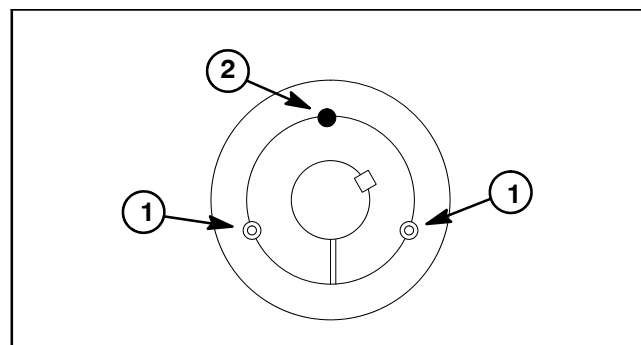

Figure 16
6. Remove four (4) cap screws (item 10) and lock washers (item 11) that secure gearbox assembly to gearbox brackets.
7. Remove fasteners that secure left side gearbox bracket (item 3) to deck mounting plate. Remove bracket from deck.
9. Remove two (2) set screws that secure taper lock bushing to drive pulley on gearbox shaft.
10. Thread one of the removed set screws into threaded hole of bushing (Fig. 16). Tighten set screw to loosen bushing from pulley hub.
3. Lightly oil threads of set screws and install screws into threads of pulley (Fig. 16). Alternately and evenly tighten set screws to a torque from **180 to 250 in-lb (20 to 28 N-m)**.
6. Position and secure left side gearbox bracket (item 3) to deck mounting plate.
7. Secure gearbox assembly to gearbox brackets with four (4) cap screws (item 10) and lock washers (item 11).